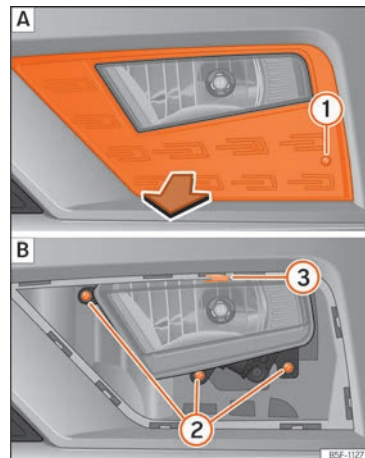
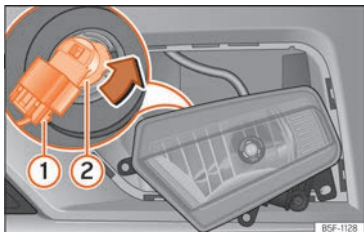

Fig. 61 Front fog light: remove the grille.
Fig. 62 Front fog light: remove the bulb holder
- Remove the screw »» Fig. 61 ① A from the fog light grille using a screwdriver and extract the grille.
- Remove the 3 screws »» Fig. 61 ② B.
- Remove the metal clip situated on the upper part of the fog light by pulling away from the vehicle ③ B and extract the fog light.
- Remove the connector »» Fig. 62 ① from the bulb.
- Turn the bulb holder ② anti-clockwise and pull.